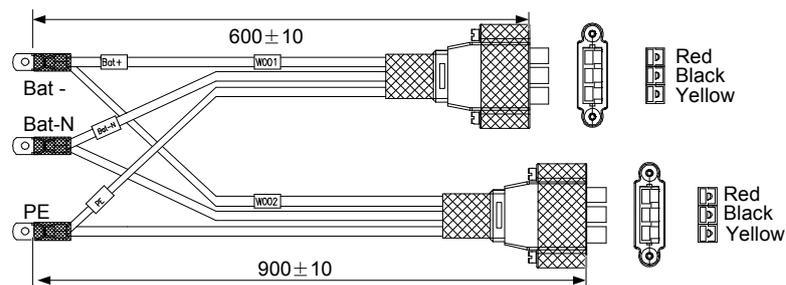
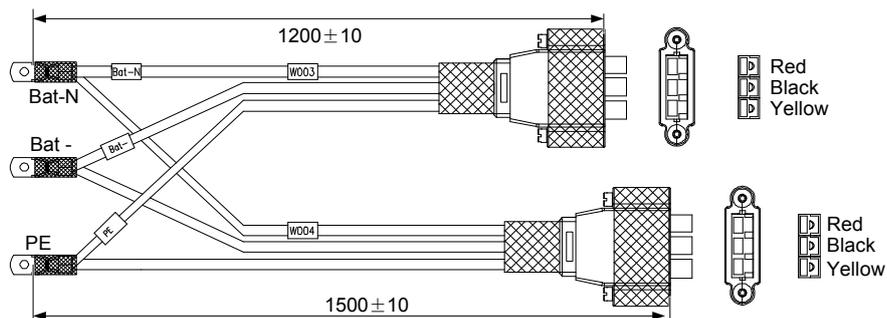

Figure 2-25 One-into-multiple battery cables 1 (unit: mm)
Figure 2-26 One-into-multiple battery cables 2 (unit: mm)
5. Refer to Figure 2-25 and Figure 2-26 for the length of the battery cables. If you need longer cables, please consult the dealer. It is recommended that the battery cable should not be longer than three meters. Otherwise, the UPS cannot operate normally.
It is recommended to use four battery modules for power supply, including two positive battery modules and two negative battery modules, using one-into-multiple battery cables (optional) to connect. The cables of the positive battery module are shown in Figure 2-25, and the cables of the negative battery module are shown in Figure 2-26. Connect the Bat+, Bat-N, Bat- and PE terminal to the corresponding terminal of the UPS, and the terminals of the other end (color: red, black and yellow) to the corresponding terminals of the battery module.